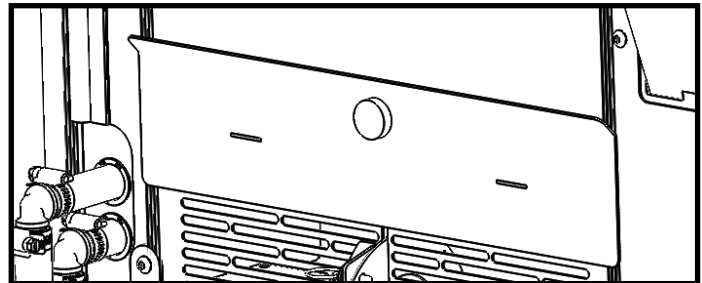

Figure 3. Air Filter Tray Removal
1. To change the air filter, unscrew the thumb screw shown in Figure 3. Remove drawer from side frame.